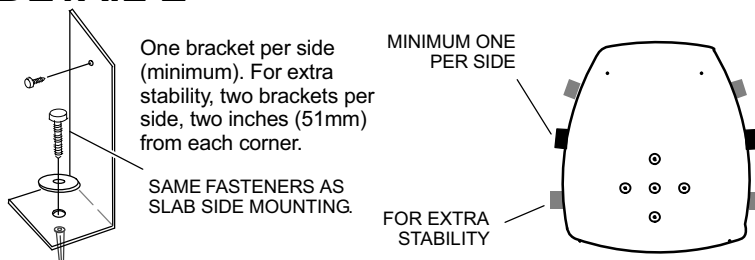

Figure 5. Placement, Slab Mounting and Stabilizing Unit
- When possible, do not install the unit directly outside a window. Glass has a very high level of sound transmission. For proper placement of unit in relation to a window see the provided illustration in figure 5, detail A.
higher ground will not collect around the unit. The slab should have a slope tolerance as described in figure 5, detail B.
*NOTE* — If necessary for stability, anchor unit to slab as described in figure 5, detail D.
Units are outfitted with elongated support feet as illustrated in figure 5, detail C.
Install the unit a minimum of 6 inches (152 mm) above the roof surface to avoid ice build-up around the unit. Locate the unit above a load bearing wall or area of the roof that can adequately support the unit. Consult local codes for rooftop applications. See figure 5, detail F for other roof top mounting considerations.